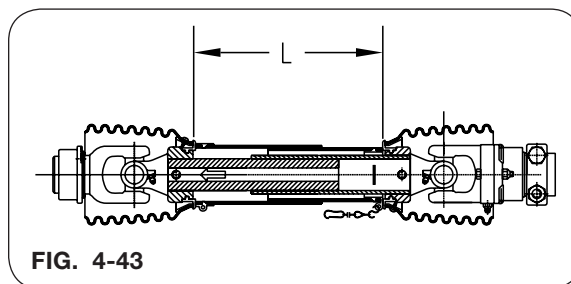

FIG. 4-43
1. Fully collapse PTO shaft and measure length "L" (Figure 4-43).